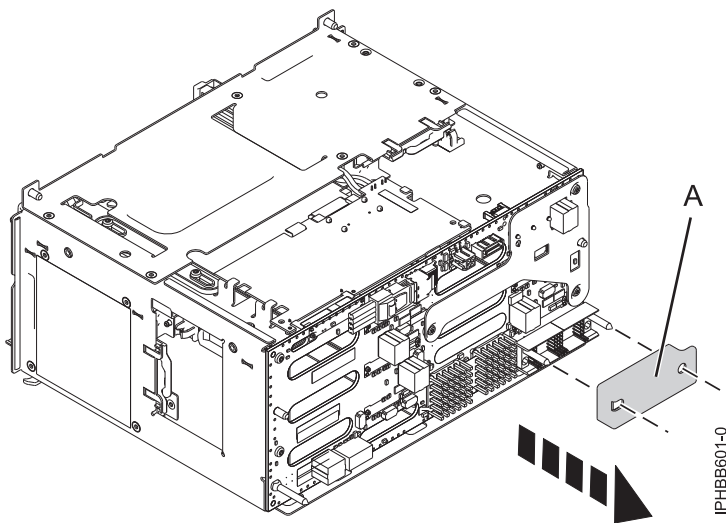

Figure 14. Removing the protective cover from the connector pins
3. Check for a protective cover that might be present on the lower-right connector pins. If a protective cover is present, remove the cover (A), as shown in Figure 14.